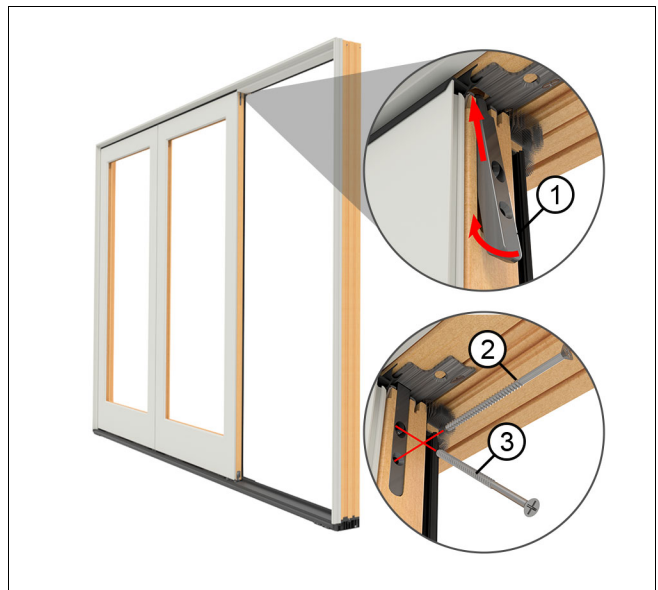

Figure 66
13. Install the end of the stationary bolt into the head jamb plate. Rotate the bolt into place and fasten to the stationary panel with the two #8 x 3" screws. Note that the top screw is installed at an angle. See Figure 66.